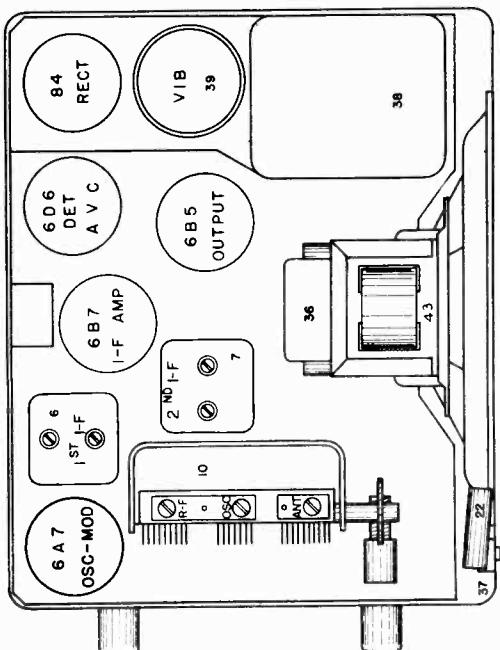

FIG. 3--PARTS LAYOUT--Top View
- (a) Feed a test oscillator signal of 262 K.C. into the control grid of the 6B7 tube (leave grid clip in place) through a .25 mfd. condenser and adjust the I-F trimmers on the 2nd I-F coil (Illus. #7 on Fig. 3). Care should be taken to keep the test oscillator leads well away from the grid leads of other tubes in the receiver to avoid inaccurate adjustments.
- (b) Remove the test oscillator lead from the grid of the 6B7 tube and connect it to the grid of the 6A7 tube (leaving grid clip in place) and adjust the trimmers on the 1st I-F coil (Illus. #5 Fig. 3) care fully for maximum output.
- (d) Recheck alignment of the antenna section of the gang condenser (Illus. #10, Fig. 3) for maximum output at 1400 K.C.